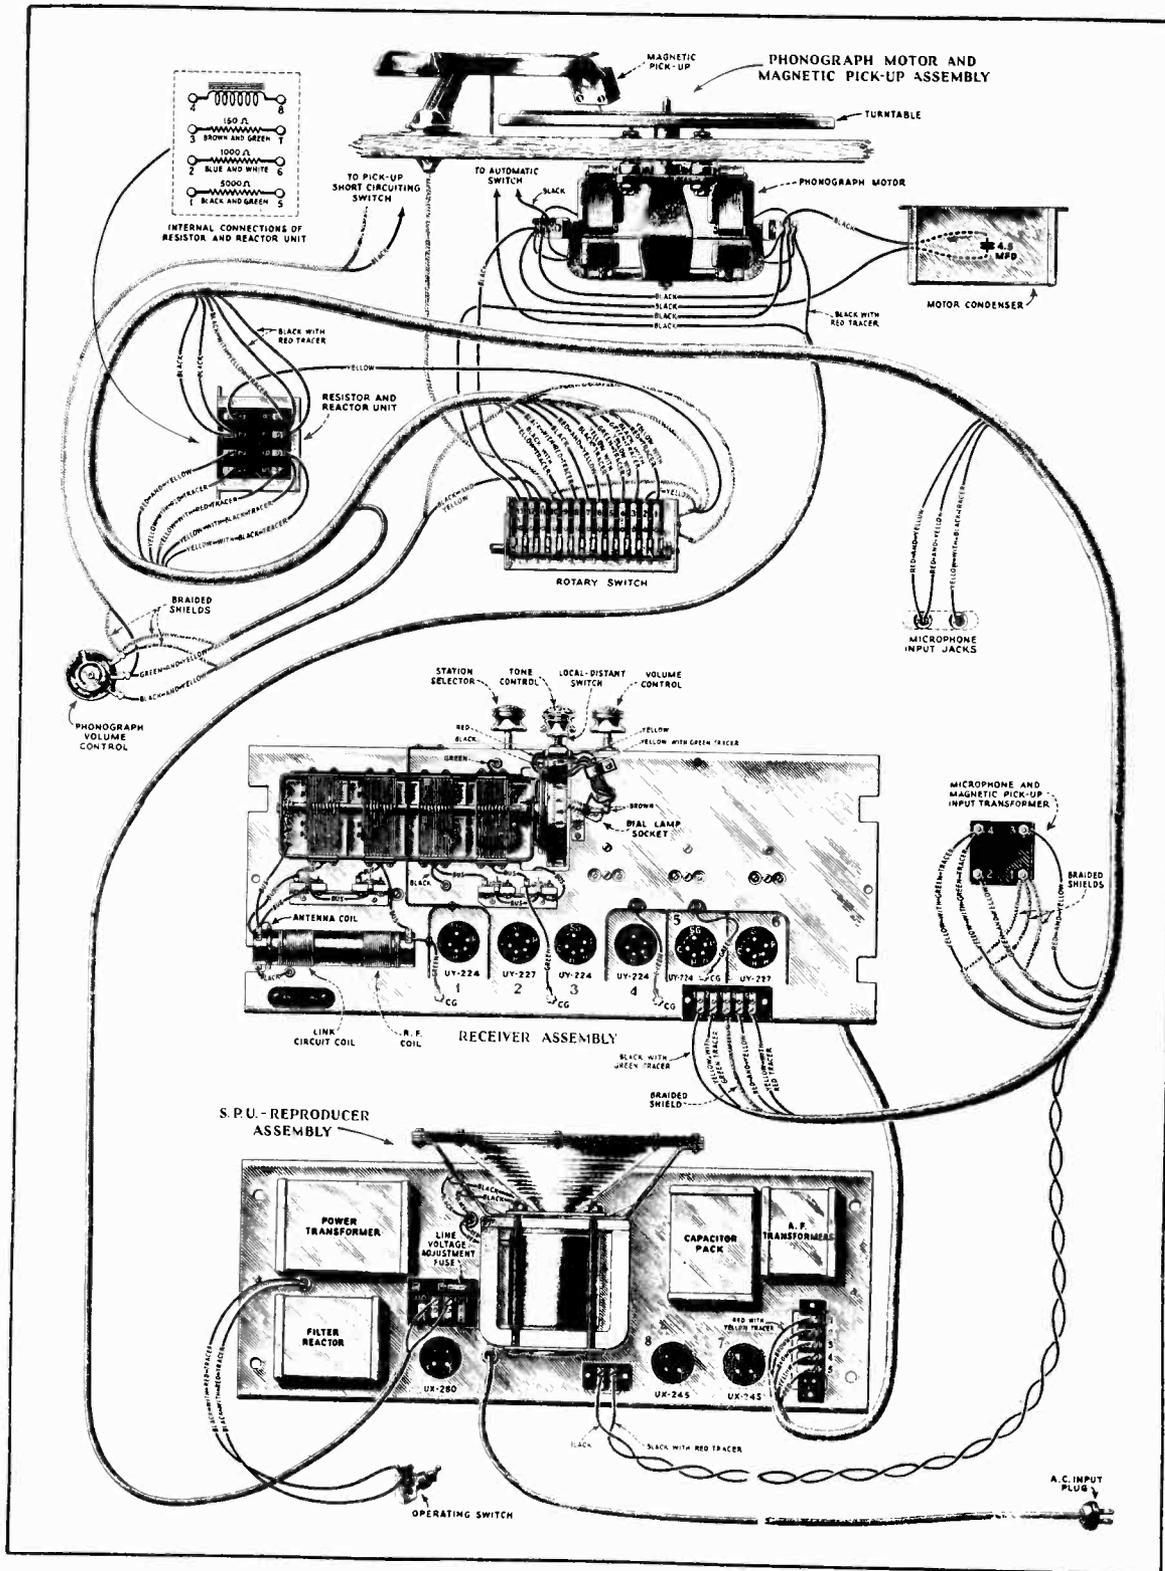

Figure 10—Assembly wiring diagram of the radio-phonograph combination instrument
Due to the absence of a motor terminal board it is best to disconnect the motor and test for continuity of circuit directly at the motor coils. This may be done by any of the methods used for regular continuity tests. Associated circuits should be checked by referring to the diagram, Figure 10.
- (e) Replace the black power leads under the lugs and reconnect the power leads to the proper points on the terminal board as shown in Figure 10. Lubricate motor if necessary.